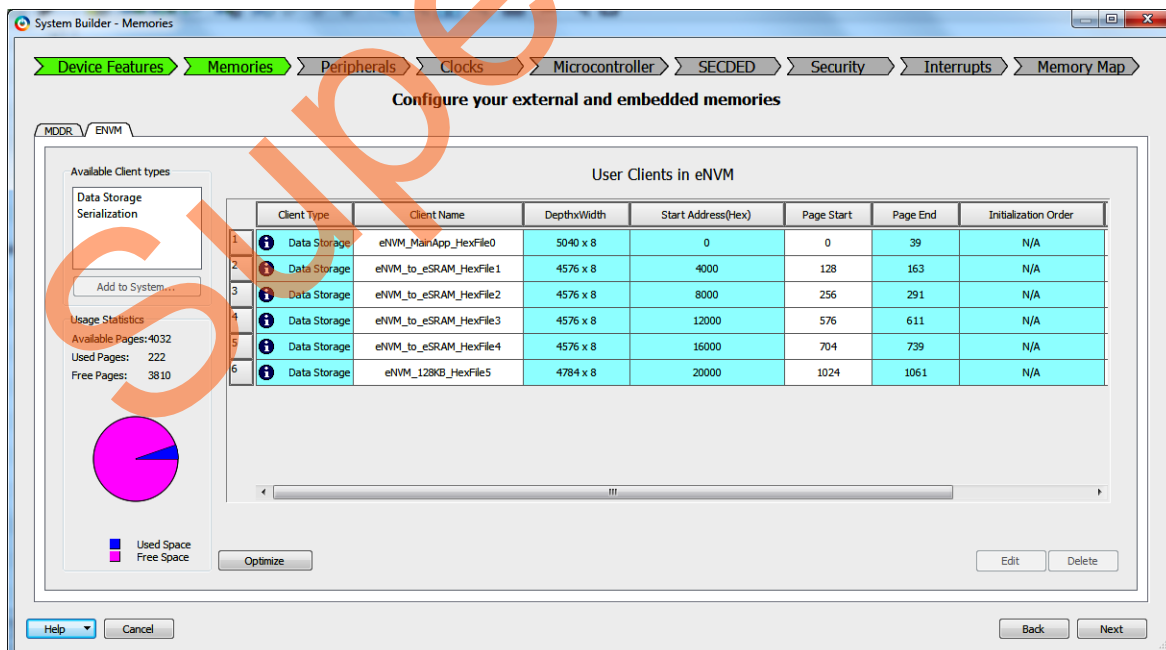

Figure 45 • Hex Files with Correct Start Addresses
7. Add the remaining Hex Files with their corresponding start addresses as shown in Figure 45 on page 37.
Figure 45 shows the correct memory locations chosen. It does not display any error.
8. In the **System Builder - Memories** page, keep the other settings to default and click **Next**, see Figure 45 on page 37.